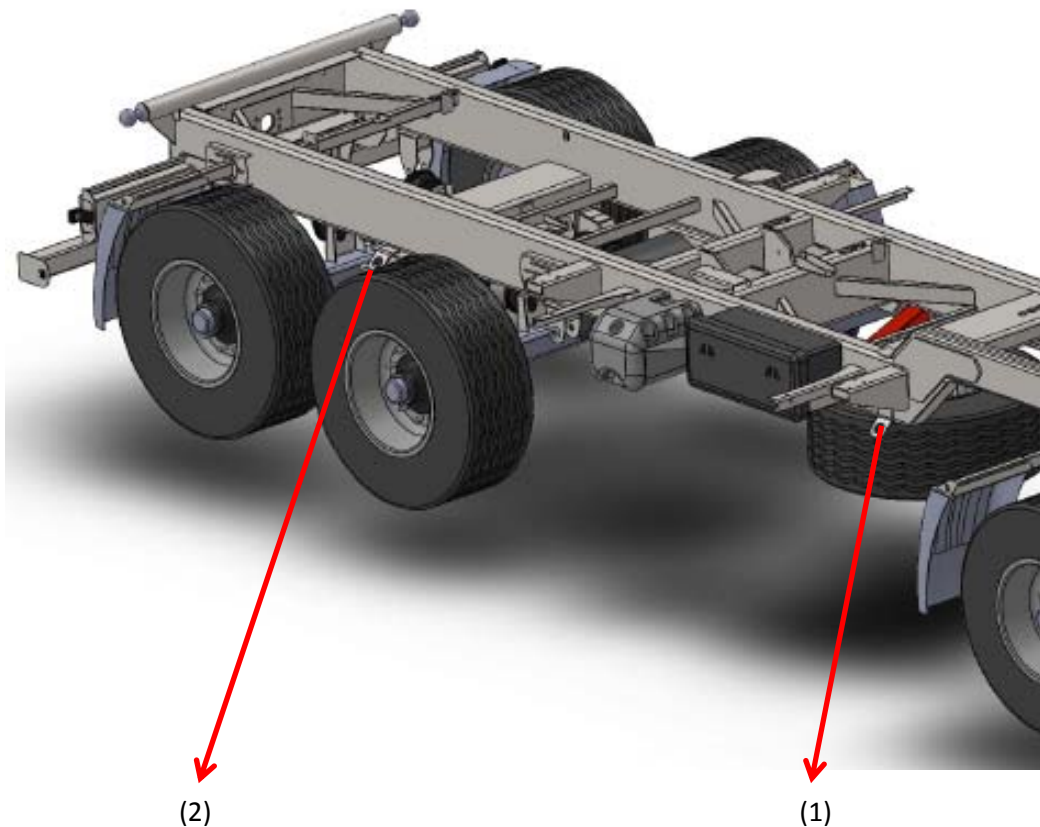

Figure 3: Transporting connecting points
The trailer should be attached firmly to the platform of the vehicle using straps or chains fitted with a tightening mechanism. Securing elements should be attached to the transport catches designed for this purpose (1) – Figure 3, permanent structural elements of the trailer (longitudinal and transverse frame sections etc.) Transport catches (hooks and eyes) are welded to upper longitudinal frame (2), with one pair on each side of the trailer. Use certified and technically reliable securing measures. Worn straps, cracked securing catches, bent or a vehicle corroded as well as other damage may disqualify use of the given element from use. Carefully read the information contained in the Operator's Manual of the given securing measure. Wedges, wooden blocks or other objects without sharp edges should be placed under the wheels of the trailer to prevent it from rolling. Trailer wheel locks must be nailed to the low platform planks of the vehicle or secured in another manner preventing their movement. The number of securing elements (cables, straps, chains and stay etc.) and the force necessary for their tensioning depends on a number of things, including weight of the trailer, the construction of vehicle carrying trailer, speed of travel and other conditions. For this reason it is impossible to define the securing plan precisely. A correctly secured trailer does not change its position with regard to the transport in vehicle. The securing elements must be selected according to the guidelines of the Manufacturer of these elements. In case of doubt apply a greater number of securing straps in order to immobilize the trailer. If necessary, sharp edges of trailer should be protected at the same time protecting the securing straps from breaking during transport.